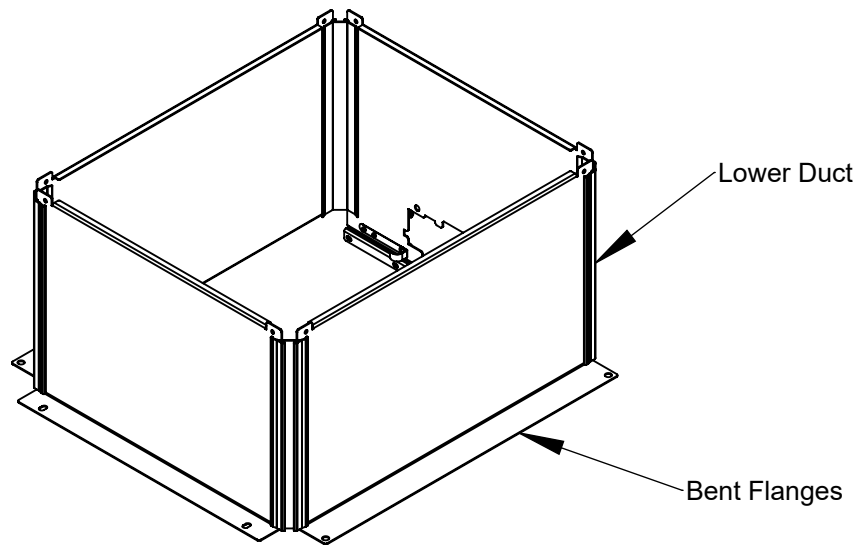

Fig. 1
1. Expand the Lower Duct and place on the floor as shown, with bent flanges down (Fig. 1).